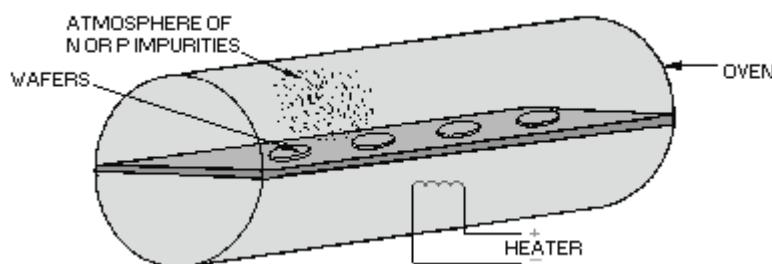

Figure 1-11.—Wafers in a diffusion oven.
**DIFFUSION METHOD.**—The DIFFUSION process begins with the highly polished silicon wafer being placed in an oven (figure 1-11). The oven contains a concentration impurity made up of impurity atoms which yield the desired electrical characteristics. The concentration of impurity atoms is diffused into the wafer and is controlled by controlling the temperature of the oven and the time that the silicon wafer is allowed to remain in the oven. This is called DOPING. When the wafer has been uniformly doped, the fabrication of semiconductor devices may begin. Several hundred circuits are produced simultaneously on the wafer.